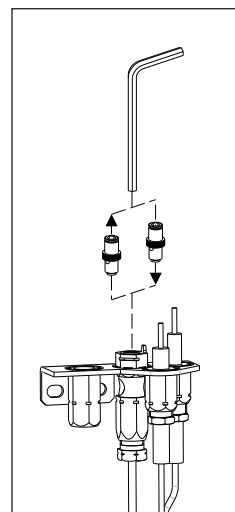

fig. 2
- 4 Insert a 5/32" or 4 mm Allen wrench into the hexagonal key-way of the injector (fig. 2), and rotate it counter-clockwise until it is free of the injector journal.